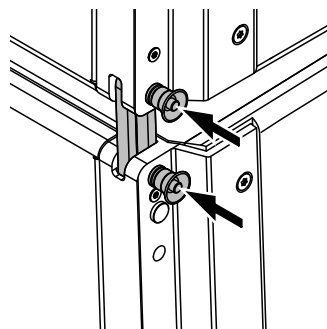

Fig. 3: SUB to SUB 2.5° splay, free
3. SUB to SUB with 2.5° splay (free) between the cabinets (⇒ Fig. 3).